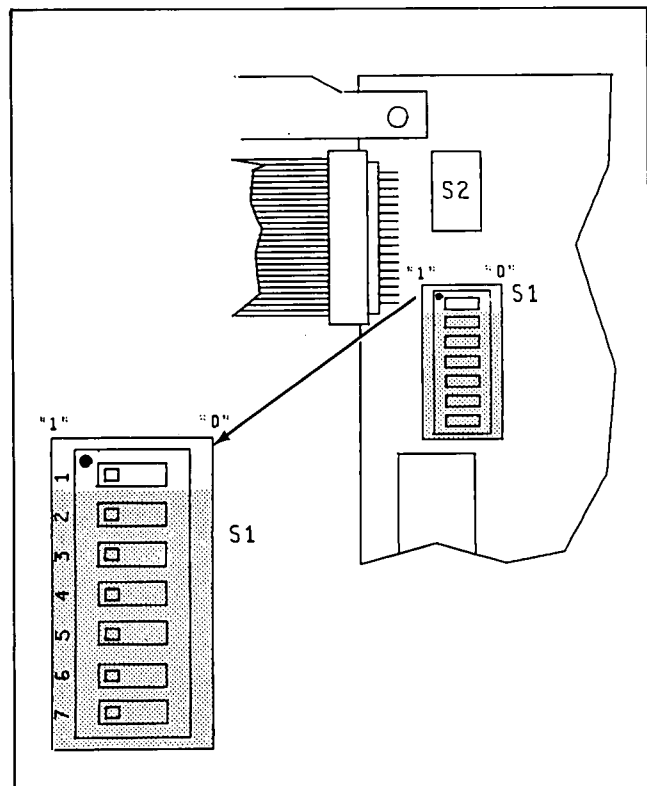

Figure 8-A2-3. Switch Setting for Test #2
- d. Refer to Figure 8-A2-3 and move switch segment 1 of switch S1 to the "1" (left) position.